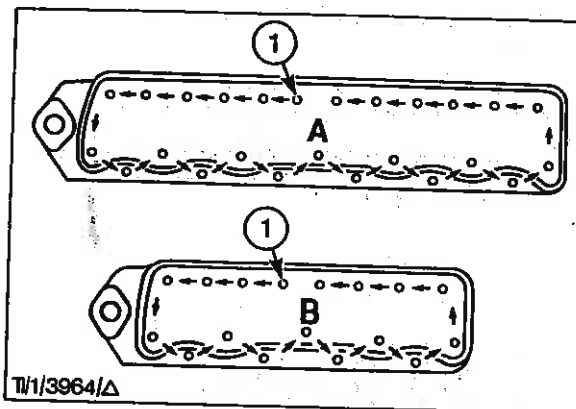

Fig. 19 - Cylinder Head Bolts Tightening Sequence
30. Slacken each cylinder head bolt a little at a time in the reverse order to the tightening sequence shown in Fig. 19, then remove all bolts.